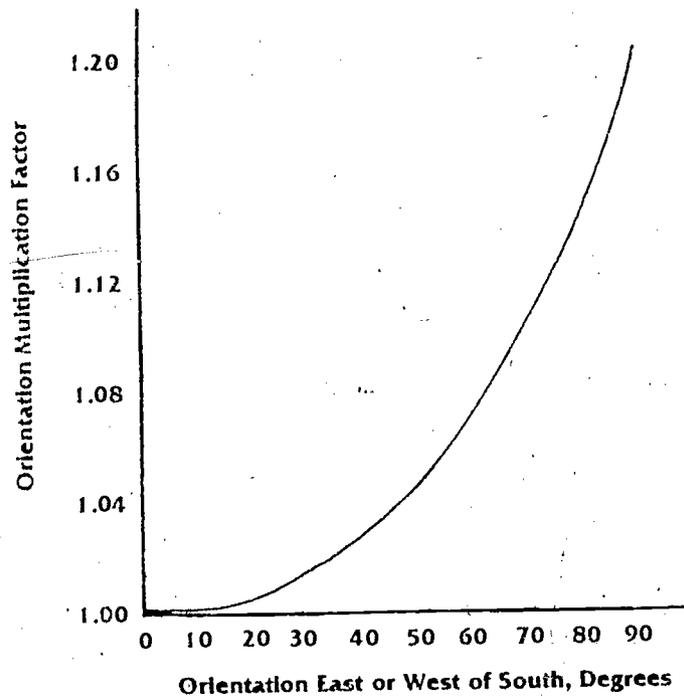

Figure VI-6 EFFECT OF NON-SOUTH COLLECTOR ORIENTATION
Step 5. (O) If the collector orientation is going to be south, the orientation factor is 1.0. If not, determine from Figure VI-6 the orientation multiplication factor (O).
Step 5. The collectors should normally face south. If the collector cannot face south due to roof orientation or other structural reasons, then the collector area must be increased by the orientation factor shown in Figure VI-6. The dotted lines in Figure VI-6 show that for an orientation 30 degrees east or west of south, the orientation factor is only 1.01.
5. Determine orientation multiplication factor from Figure VI-6.